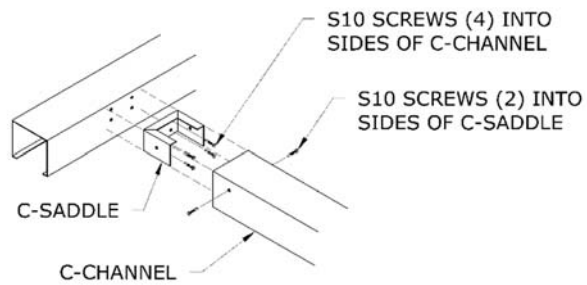

FIGURE 8
Next, install the C-Saddles in the locations where the C-Channels in the “SPACING” direction will be mounted. See Figure 8. The C-Saddles are fastened with (4) Tek Screws, P/N S10, into the sides of the C-Channels installed in the previous step. The C-Channels in “SPACING” direction will need to be measured and cut to the exact distance between the